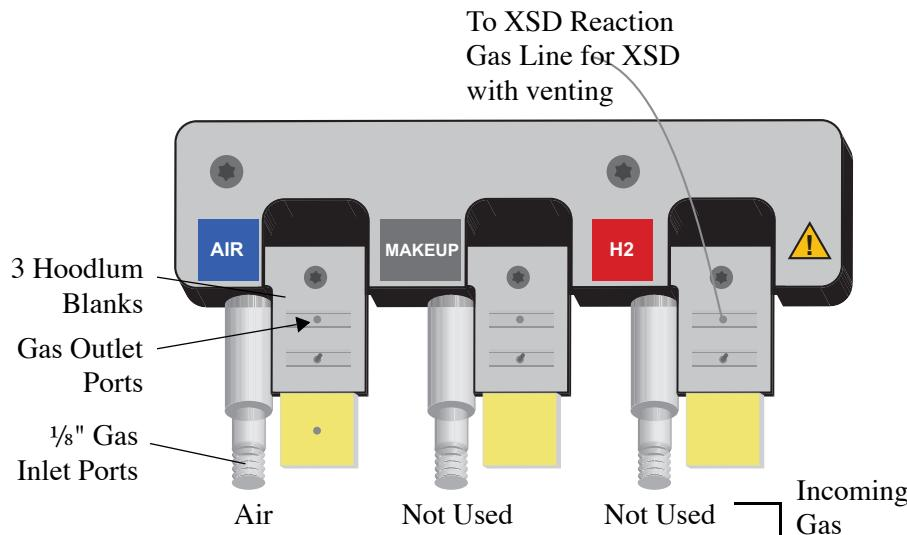

Figure 3.10. OIM Module Plumbing for Standalone XSD with Venting
1. Remove the protective cap from the appropriate gas inlet using Table 3.1 and Figures 3.10 and 3.11.
2. Connect Air to the appropriate inlet using $\frac{1}{8}$ " brass nuts and ferrules (refer to Figure 3.10 and 3.10).